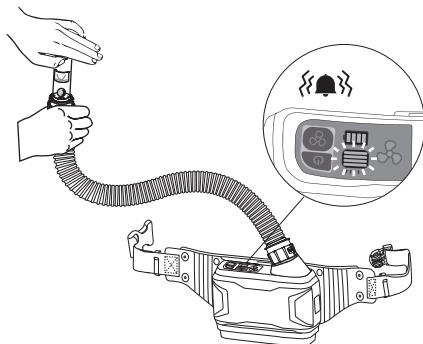

fig.5
- Attach the airflow indicator to the air duct of the blower unit. To test the alarm, switch on the blower unit and cover the air duct of the airflow indicator. You will hear an audible alarm and see the green light flashing. The alarm should stop if you remove your hand (See fig.5)